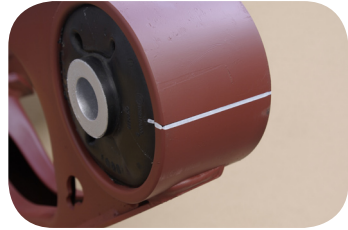

Fig. 5 · Marking the bushing orientation
2. Using a white marker pen, draw a line (Fig. 5) on the outside of the trailing arm receptacle at the raised position locator of the pivot bushing. This line marks the orientation of the existing pivot bushing within the receptacle and will be used to properly orient the replacement bushing during installation.